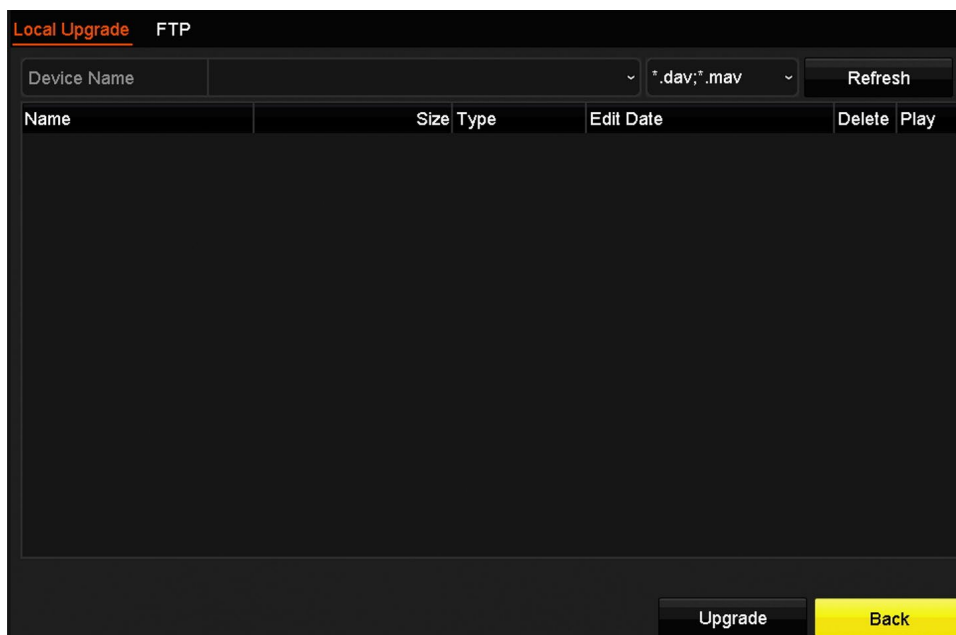

Figure 12-8 Local Upgrade Interface
3. Click the **Local Upgrade** tab to enter the local upgrade menu, as shown in Figure 12-8.